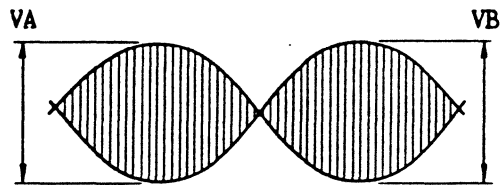

Fig. 412 Lobe Pattern for Alignment Inspection
- (2) Install the alignment disk and start the spindle motor.
- (3) Move the head to the alignment inspection track (track 40).
- (4) Make sure two lobe patterns (VA and VB levels need not coincide) shown in Fig.412 are observed.
If only one lobe pattern is observed or when two lobe patterns are connected, the alignment inspection track position is off. In such a case, carry out stepout or stepin for 4 tracks, and set the track to a position where a waveform the most similar to Fig.412 is obtained.
With 135tpi Floppy Disk Drive, it is necessary to perform setting so the track where a lobe pattern observed is as shown in Fig.412 is an even track.
- (c) Insert the alignment disk. It is assumed, however, that track alignment was correctly performed in item 4-4-7.
- (d) Shift the head to a track where a lobe pattern like that shown in Fig.412 can be observed.